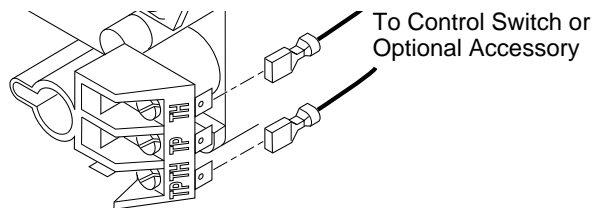

Figure 34 - Control Valve Terminals
1. Connect one terminal of 25 ft. wire for the wall switch to the TPTH terminal on the valve. Connect remaining wire terminal to the TH terminal on the valve. Make sure that the wire terminals are in the positions on the unit as pictured in Figure 34. If wires are not connected as shown, the switch will not work.
3. Connect one terminal of the wire for the wall thermostat to the THTP terminal on the valve. Connect remaining wire terminal to the TH terminal on the valve. Make sure that the wire terminals are in the positions on the unit as pictured in Figure 34. If wires are not connected as shown the thermostat will not work.
- Disconnect wires from THTP and TH on control valve that lead to the switch (see Figure 34, page 15). Discard switch plate, screws, and nuts.
- Connect the wires from the receiver to the valve at TH and THTP (see Figure 34, page 15).